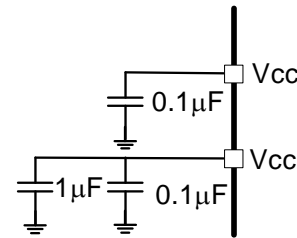

Figure 8: Vcc 3.3V decoupling
The controller is powered by the 3.3V supply rail. Once initialization of the device is complete, steady and stable supply voltage rails and a VR enable signal (EN) are required to set the controller into an active state. A high EN signal is required to enable the PWM signals and begin the soft start sequence after the 3.3V and 12V supply rails are determined to be within the defined operating bands. The recommended decoupling for the 3.3V is shown in Figure 8. The Vcc pins should have 0.1μF X7R type ceramic capacitors placed as close as possible to the package.